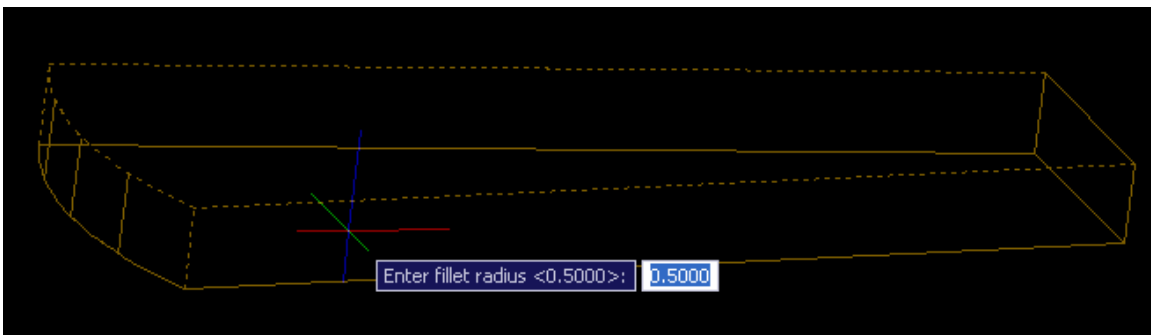

Figure 4a
4. Add a .5 radius fillet to the 5 edges highlighted in Figure 4a.